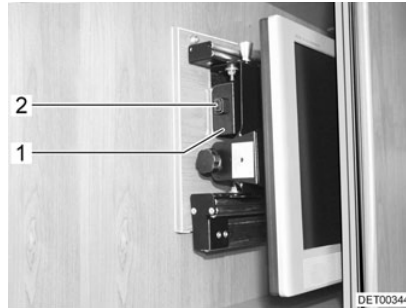

Fig. 6 Television (flat screen)
- Rotate the television to its initial position (Fig. 6) and lock it into place.
- Use handle (Fig. 6,1) to push the holder for the flat screen backwards. The latch (Fig. 6,2) will engage.